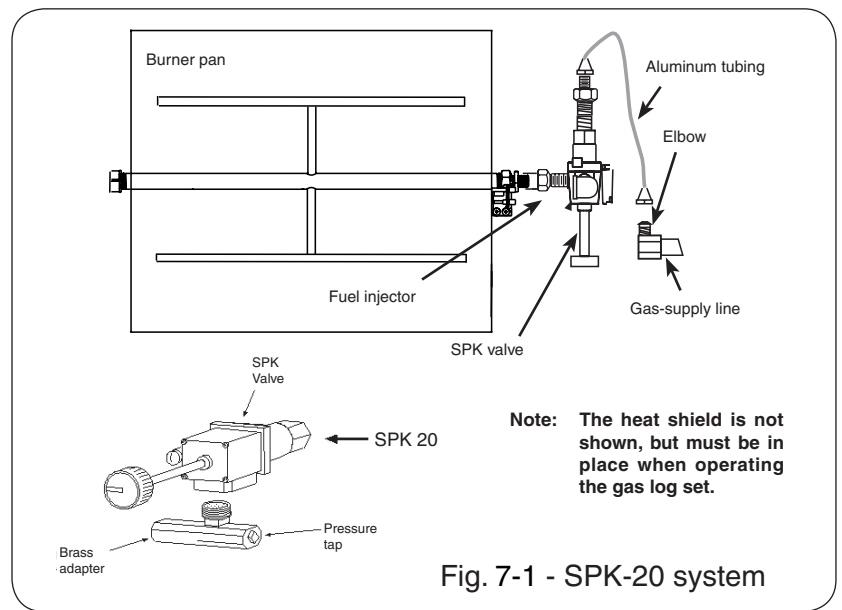

Fig. 7-1 - SPK-20 system
3. Installing the Real-Fyre® gas log set using a Peterson manual safety pilot system (SPK series) (Fig. 7-1 & Fig. 7-2)